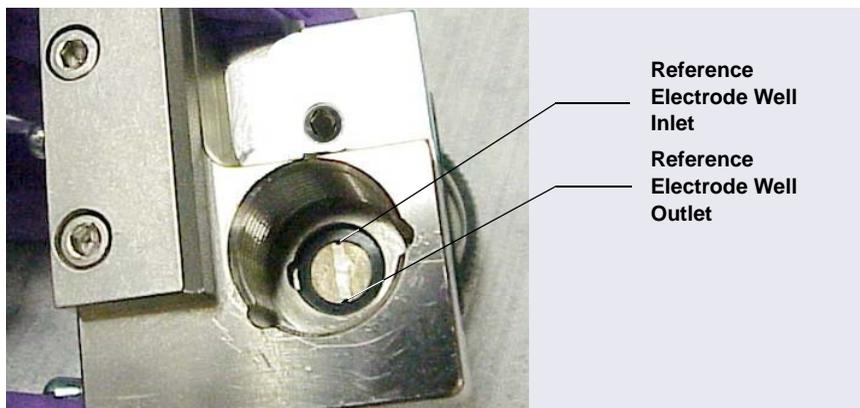

Figure B-11. Reference Electrode Well with Reference Electrode Gasket for Capillary IC Installed
- Verify that the gasket is centered in the bottom of the well and that it does not block the inlet or outlet of the well. The inlet and outlet are small round openings in the bottom of the well (see Figure B-11).